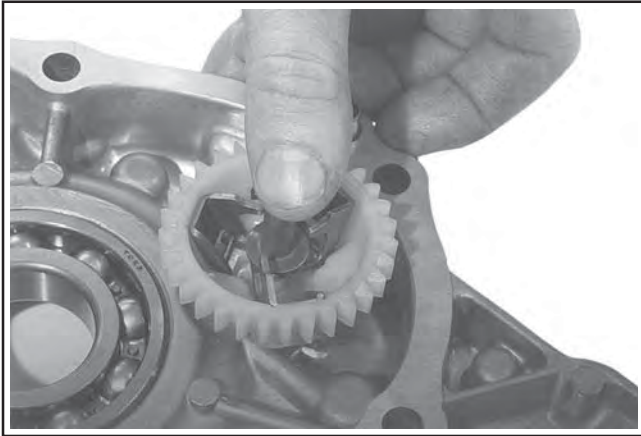

Figure 10-21. Installing Governor Gear Assembly.
3. Raise the gear up on the shaft sufficiently to install the other thrust washer and governor regulating pin under the outer fingers of the flyweights. See Figure 10-21.